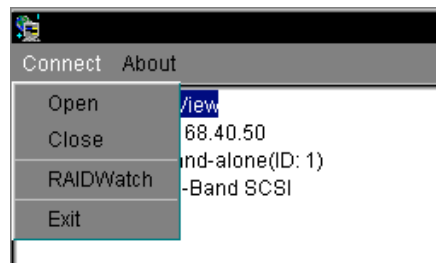

Figure 12-8: The Connect Menu
- ◆ The *menu bar* displays the available menus. All menus provide a list of commands for invoking various operations. The **Connect** menu shown in *Figure 12-8* allows you to **Open**, **Close**, switch to **RAIDWatch** Manager, and **Exit** the program.